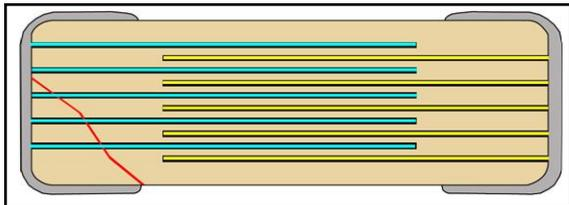

**Figure 7. Flex crack does not complete circuit - no short circuit failure.**
- For **low** capacitance values, KEMET offers the Floating Electrode (FE-CAP) design. This is also known in the industry as a Serial Cap design, as the Floating Electrode part contains two parts in series, within a singular capacitor body. In Automotive (Clamp 30) designs, sometimes 2 distinct capacitors will be used in series on the PCB – the FE-CAP gives a designer this “two parts in series” - within a singular capacitor. This solution works by eliminating the short-circuit path between electrodes of opposite polarity (See Figure 7). Due to the sacrifice of active